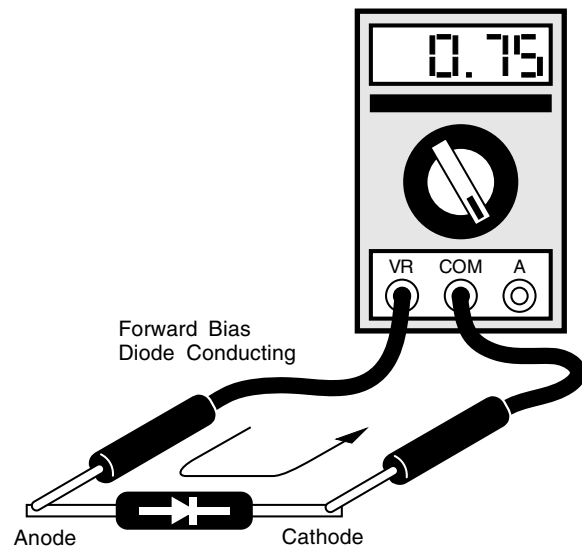

Figure 13-1: Forward bias diode test
1. To check the diode in the forward bias direction, connect the volt/ohm meter positive lead to the anode (positive, +) of the diode and the negative lead to the cathode (negative, -) of the diode (refer to Figure 13-1). A properly functioning diode will conduct in the forward bias direction, and will indicate between 0.3 and 0.9 volts.
2. To check the diode in the reverse bias direction, reverse the meter leads (refer to Figure 13-1). A properly functioning diode will block current flow in the reverse bias direction, and depending on the meter function, will indicate an open or "OL".